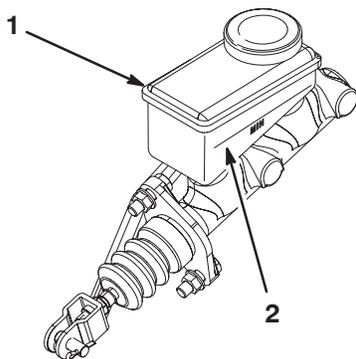

Figure 32
2. Look at the side of the reservoir. The level should be above the Minimum line (Fig. 32). If the fluid level is low, clean the area around the cap, remove the cap, and fill the reservoir to above the Minimum line. **Do not overfill.**